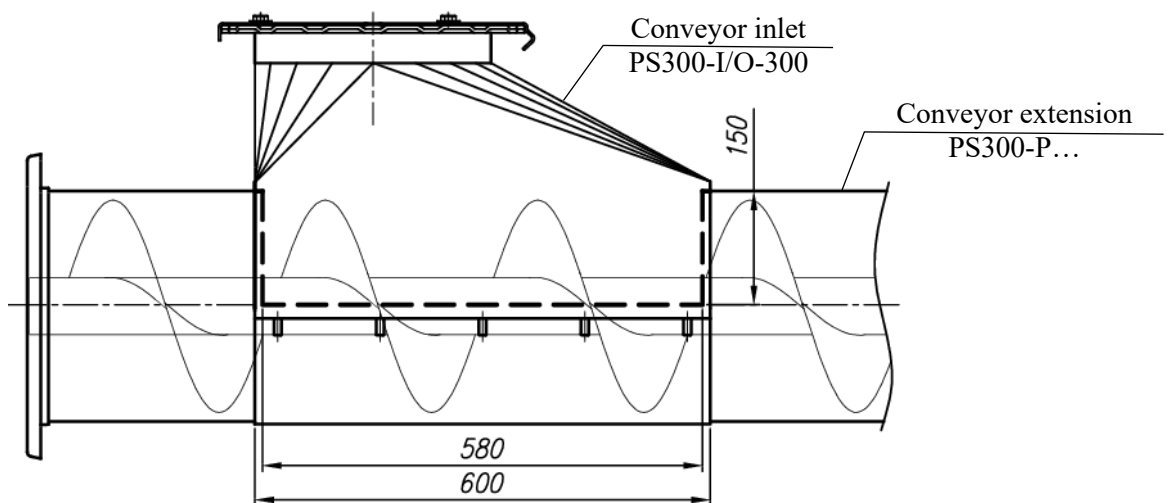
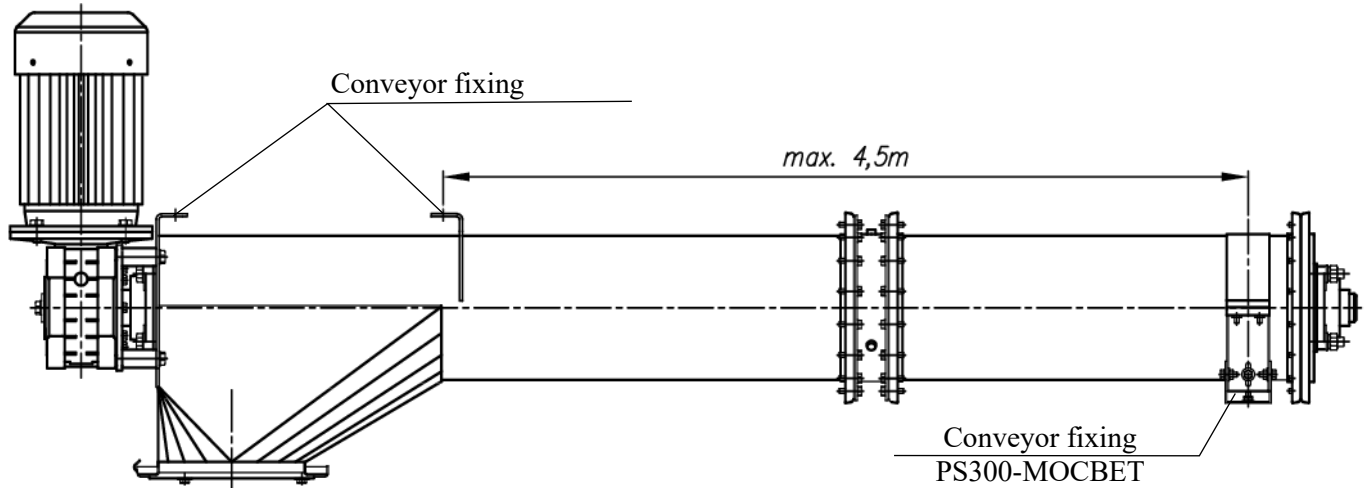

Figure 26. Installation of the inlet of the screw conveyor PS300 of 300 mm in diameter.
Figure 27. A method for fixing the screw conveyor PS300.
- Install grain inlets and fixings of the conveyor. Stick a nominal plate onto the conveyor pipe (Figure 1). The PS300 conveyors must be installed on a stable base, and a distance between components fixing the conveyor pipe to the base should not exceed 4.5 m (Fig. 27). The installation should be performed in a way ensuring the conveyor's stable fixing at its ends, i.e. near the driving gearmotor and the end hub. A pipe fixing element, RU300-MOC, or fixing to the concrete, PS300-MOCBET, can be used to fix conveyors to the base. The PS300 extension with an outlet is provided with handles for fixing of the conveyor. To install the PS300-I/O-300 inlet, an opening needs to be cut out in the PS300-P... housing (Fig. 26) Seal areas of the inlet connection to the conveyor with roofing sealant.